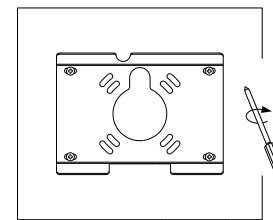

Figure 14
3. Align mounting bracket with hole; tighten screws. (Figure 14)